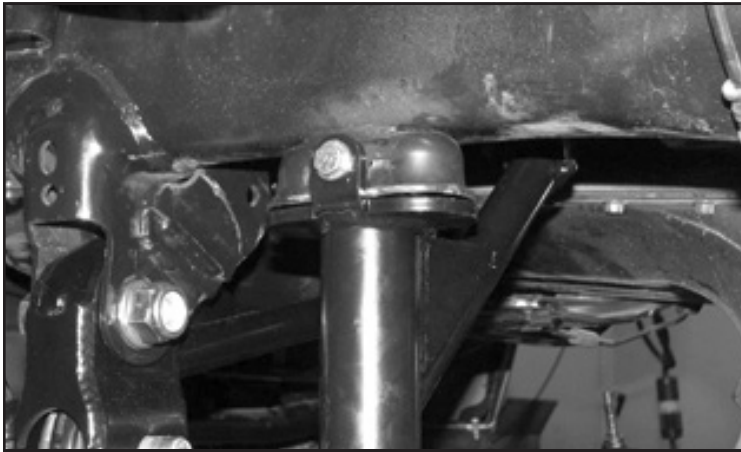

FIGURE 21 - STEP 27
27. Locate a 5/16"-18 x 2-1/2" bolt, nut and washers. Using this bolt, secure the bump stop to the factory bump stop mount and torque to 29 ft-lbs. **SEE FIGURE 21**